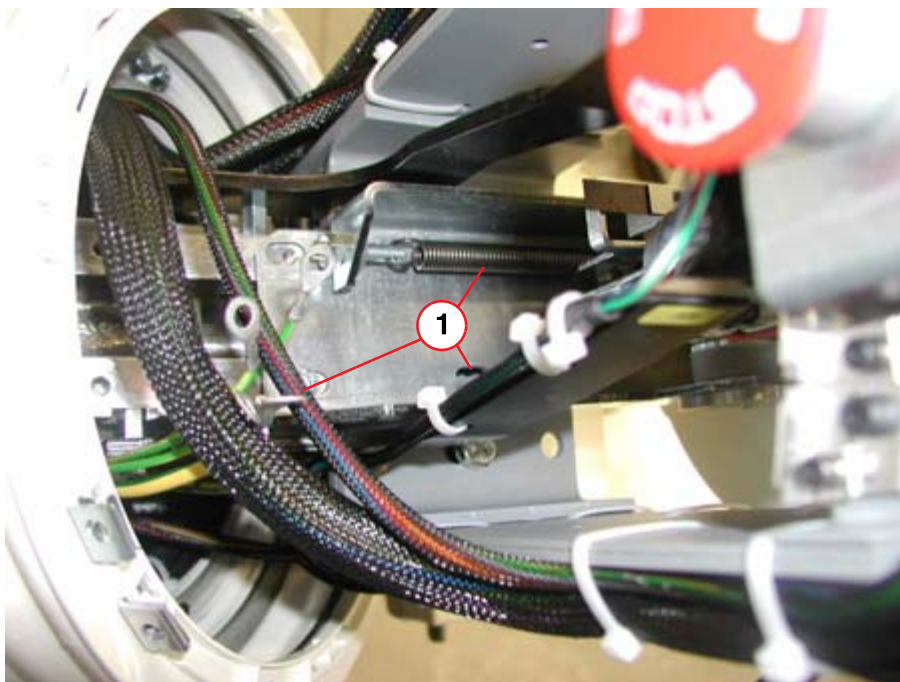

Fig. 9: Fixing bolts
- Insert the three bolts and tighten them slightly (1/ Fig. 9 / p. 30).
- Securely tighten the three bolts for the compression unit holder (1/Fig. 9 / p. 30).